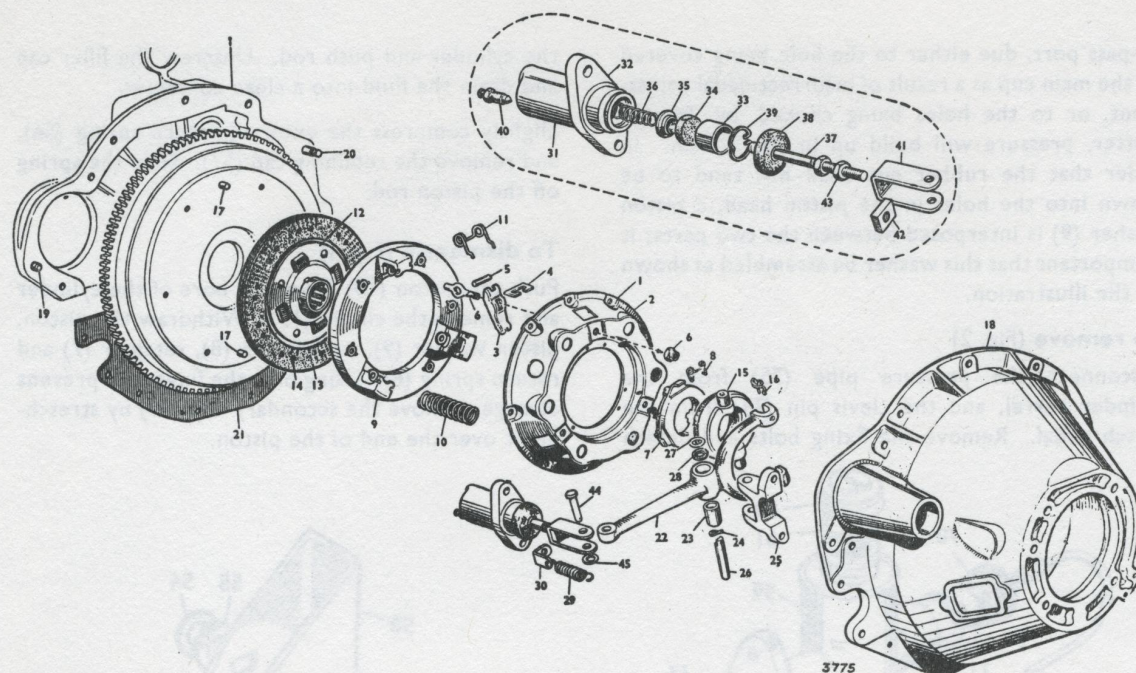

Fig. 3. Exploded view—Clutch components and slave cylinder (Alpine Series I, II and Rapier Series IIIA cars)
Provision for bleeding the system is made on the operating cylinder. (See item 40, Fig. 3.).
SLAVE CYLINDER (Figs. 3 and 5)
Remove the circlip (39, Fig. 3) from the bore (Alpine Series I and Rapier Series III cars). Apply a LOW air pressure to the fluid connection to expel the internal parts.
2. Attach a rubber tube to the bleeder screw (40) —Fig. 3) on the slave cylinder, allowing the free end to be submerged in a little brake fluid in a clean glass jar.
4. Repeat (3) until air bubbles cease to appear from the end of the tube in the jar.